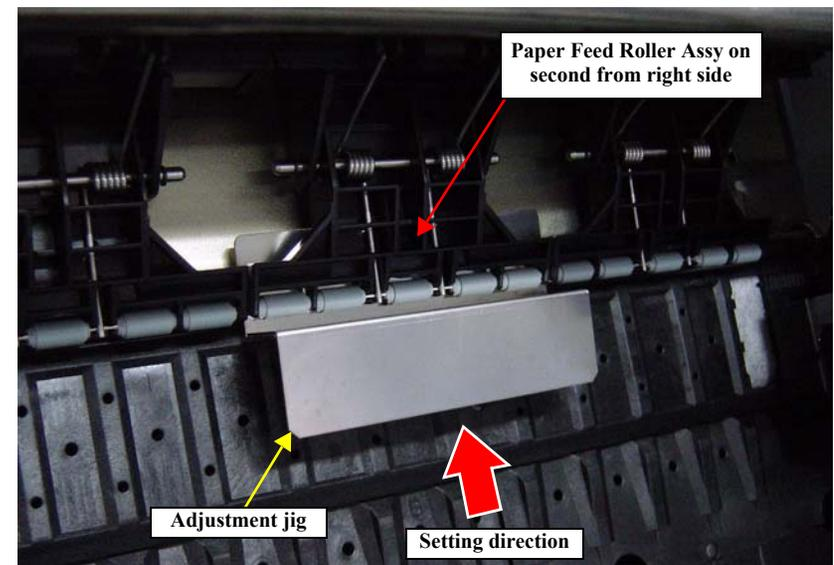

Figure 5-70. Position for the thickness tool (0.5 in thickness)
12. Insert the adjustment jig (0.5) from the paper insertion opening, and set it to the position shown in Figure 5-70, then press the [Paper Set] button.